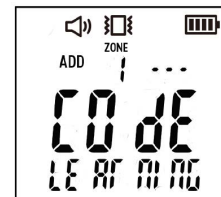

Figure 2
4. The phrase "COdE LEARnInG" will display on the LCD screen (see figure 2).